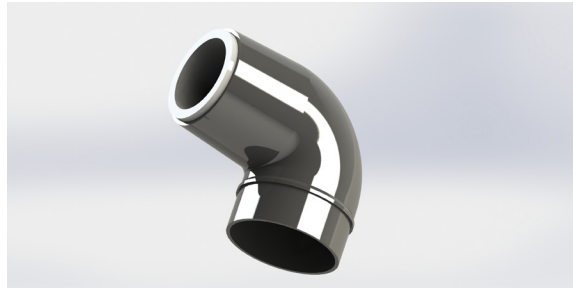

Fig. 6
- A. Also included with your StoneVac Mill Sync kit is a 90-degree PVC elbow with a white bushing inside one of its ends (Fig. 6).